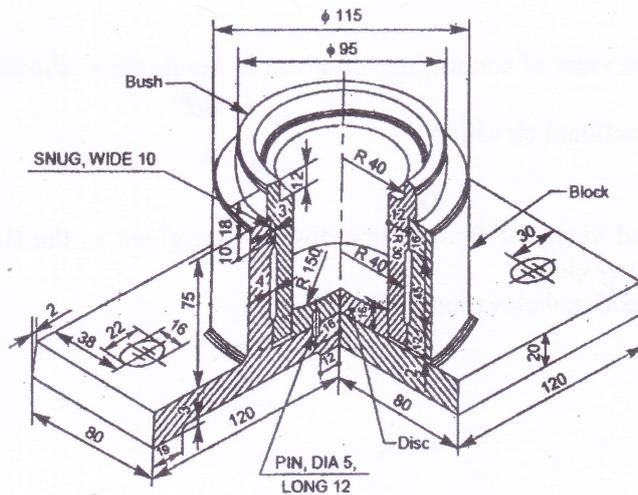

Figure 2: Footstep bearing
- III. Draw the following views of footstep bearing shown in the figure 2. (30)